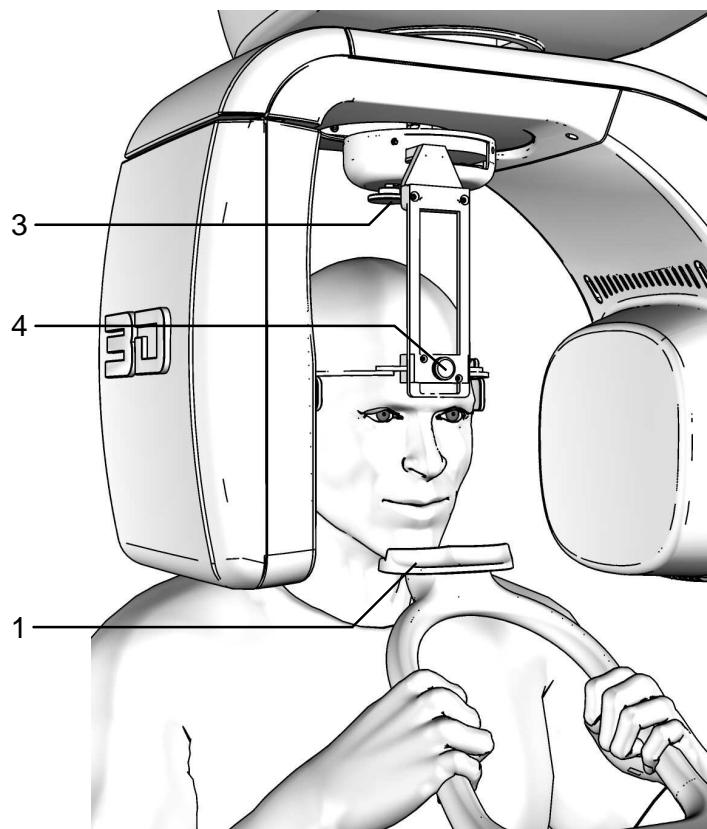

Figure 20 - 3D TMJ Left positioning
5. Check that the temple clamp device is in the 3D TMJ Left position (patient right side - Figure 10); if necessary move it into the correct position by means of the knob (Figure 20).
4. Place the patient in the temple clamp (Figure 20) by placing the chin on the surface of the relevant support; the hands should rest on the front handgrips; the patient must rest his chin against the reference on the chin support, using the right side (patient entrance view) of the support itself.
6. Place the temple clamp in contact with the patient's head by means of the appropriate knob (Figure 20). In order to help the patient maintain the correct posture, use the head strip on the temple clamp passing it behind the nape of the patient's neck; check that, during this phase, the patient has not changed position.